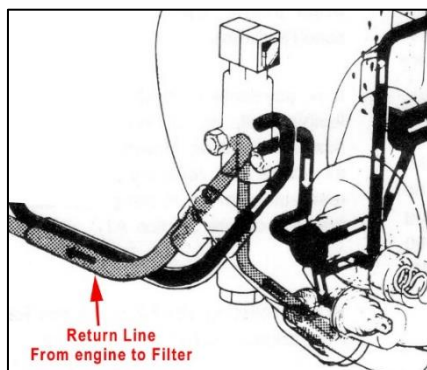

FIG. 1
- 2- Place a drain pan under the bike, disconnect the oil return line from the engine and let it drain. See FIG. 1.